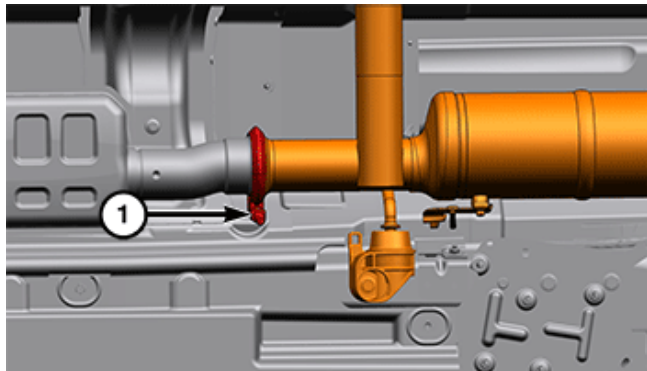

Figure 47 – Exhaust Clamp
- f. Loosen the exhaust clamp nut (1) securing the resonator to the crossunder pipe (Figure 47).